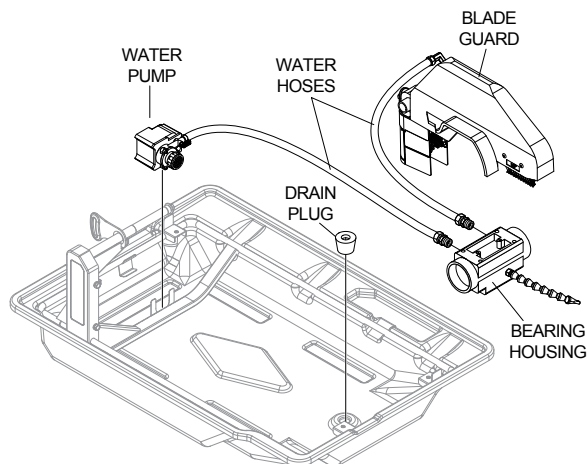

Figure 6. Connecting the Water Pump
3. Slide water pump onto U-shaped bracket located at the bottom of the frame. See Figure 6.
Refer to Figure 6.